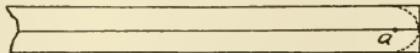

FIG. 105.—LAYING OUT ENDS OF RUNNERS.
4. Making the runners. — The runners are made of two pieces of $2'' \times 6'' \times 10' 4''$. The ends are rounded off by drawing an arc of a circle $2''$ in radius, holding the two planks as shown in Fig. 105, placing the point of the compass at *a*. Repeat at the other end. Chisel down just outside the line, and finish with the block plane. Turn the floor upside down and spike the runners to the floor joists, locating them about $6''$ from each side piece.